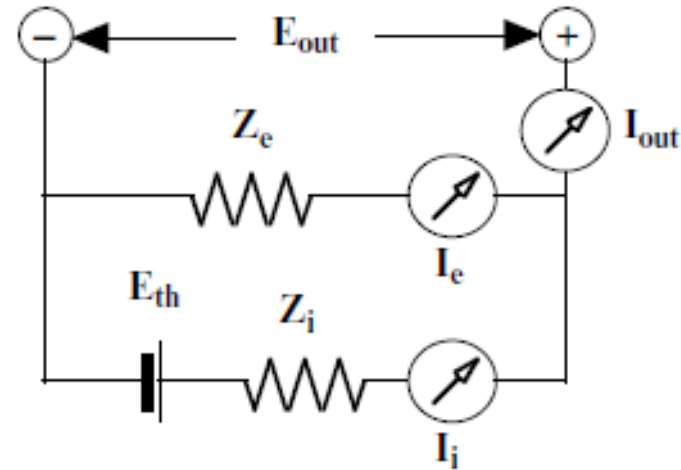
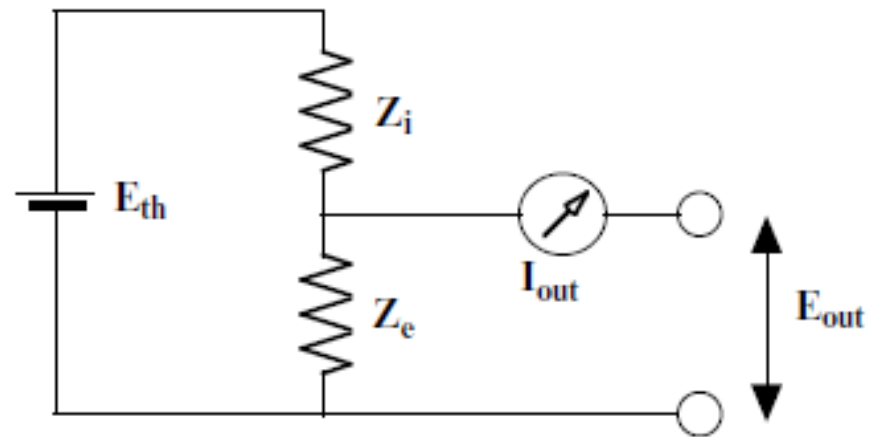

Fig. 1.12 Modified circuit including electronic leakage through the electrolyte
Fig. 1.13 Different representation of general equivalent circuit of Fig. 1.12
-rearrange Fig. 1.12 → Fig. 1.13